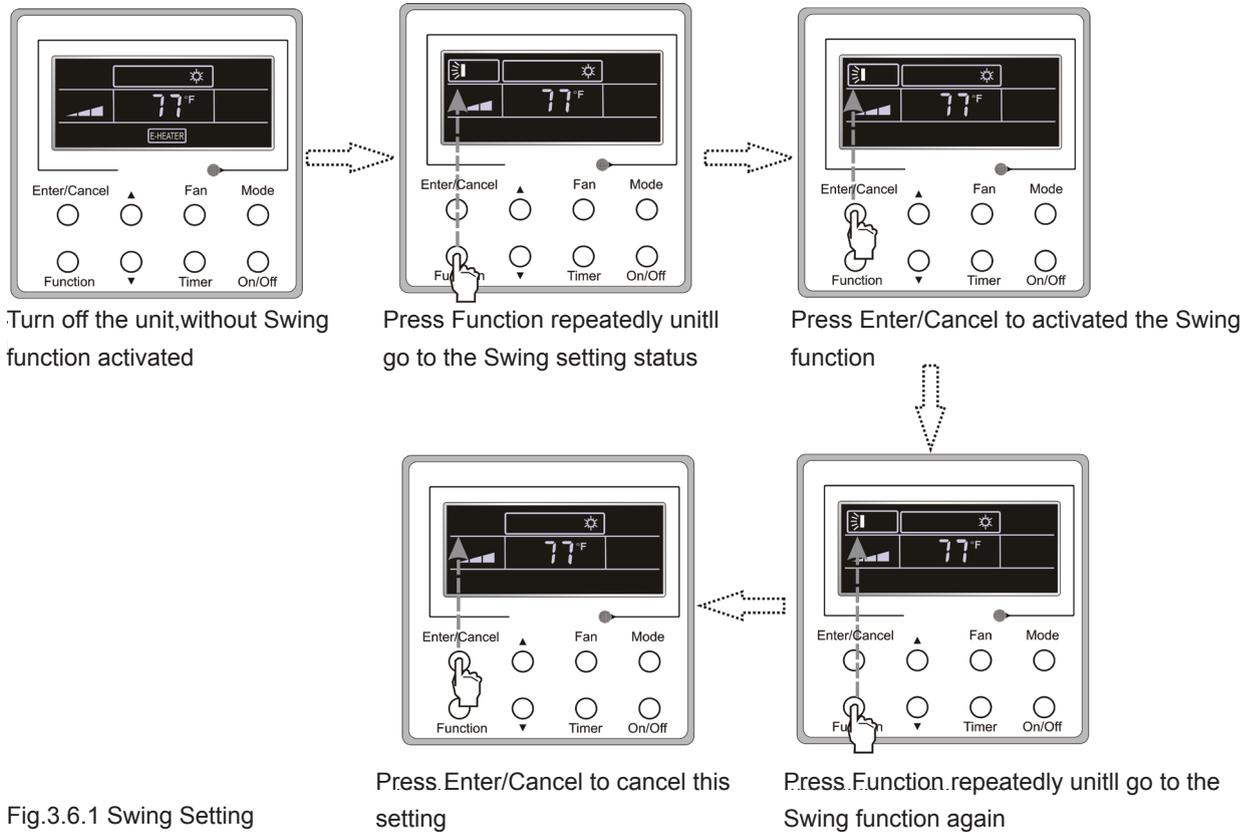

Fig.3.6.1 Swing Setting
**Swing Off:** When the Swing function is on, press Function to enter the Swing setting interface, with  blinking. After that, press Enter/Cancel to cancel this function. Swing setting is shown as Fig.3.6.1.